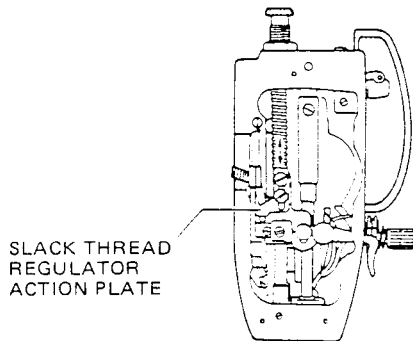

Fig. 10
- To adjust length of thread end with slack thread regulator action plate. (Fig. 10)